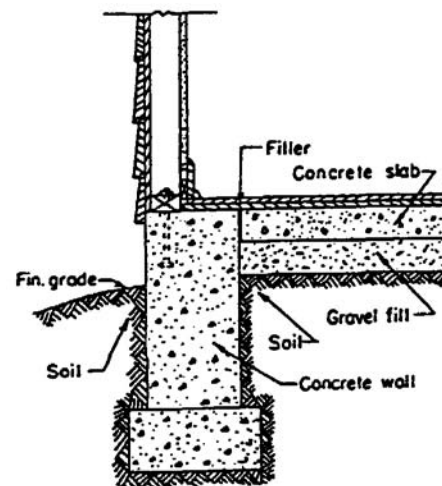

Figure 18. Floating concrete slab-on-ground construction.
3. **Floating Slab.** The floating slab (Figure 18) is in contact with the ground and is independent of the foundation. This is the most hazardous of the three types of slabs. It comes in contact with the foundation walls where there are expansion joints, through which termites may gain access to the woodwork above.